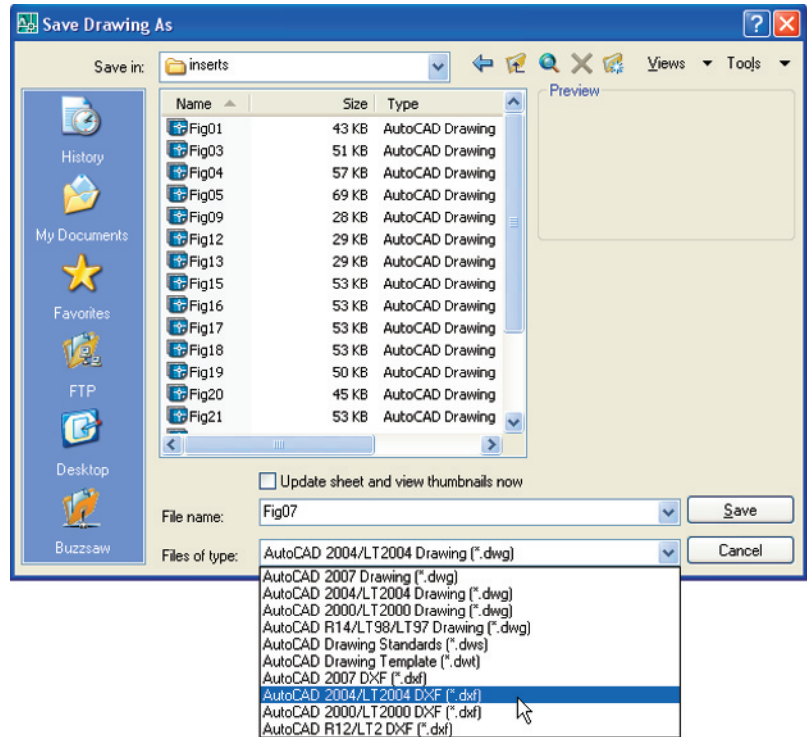

Fig. 10.8 The **Save Drawing As** dialog set up to save drawings in DXF format
Example – DXF file (Fig. 10.8)
3. Enter a suitable file name. In this example this is **Fig. 07**. The extension **.dxf** is automatically included when the **Save** button of the dialog is clicked (Fig. 10.8).